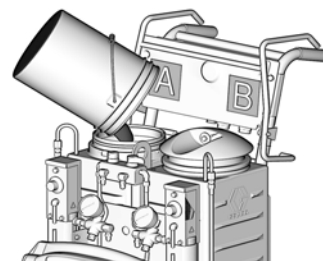

FIG. 7 Fill Tank A with ISO
3. Remove tank A cover and pour ISO into tank A (red side, with desiccant filter in cover). See FIG. 7.